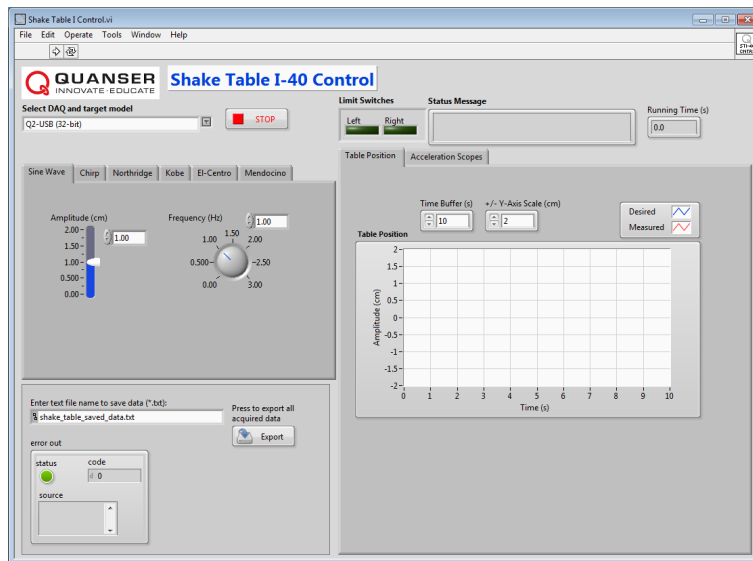

Figure 2.2: Shake Table I Software - Startup
3. Start the Shake Table I-40 Software by double-clicking on *Shake Table I-40 Software.exe* file. The window similarly as shown in Figure 2.2 should load.
5. Click on the *Run* button to start running the software. The *Run* button is in the top-left corner (i.e. with a white arrow), as shown in Figure 2.2.